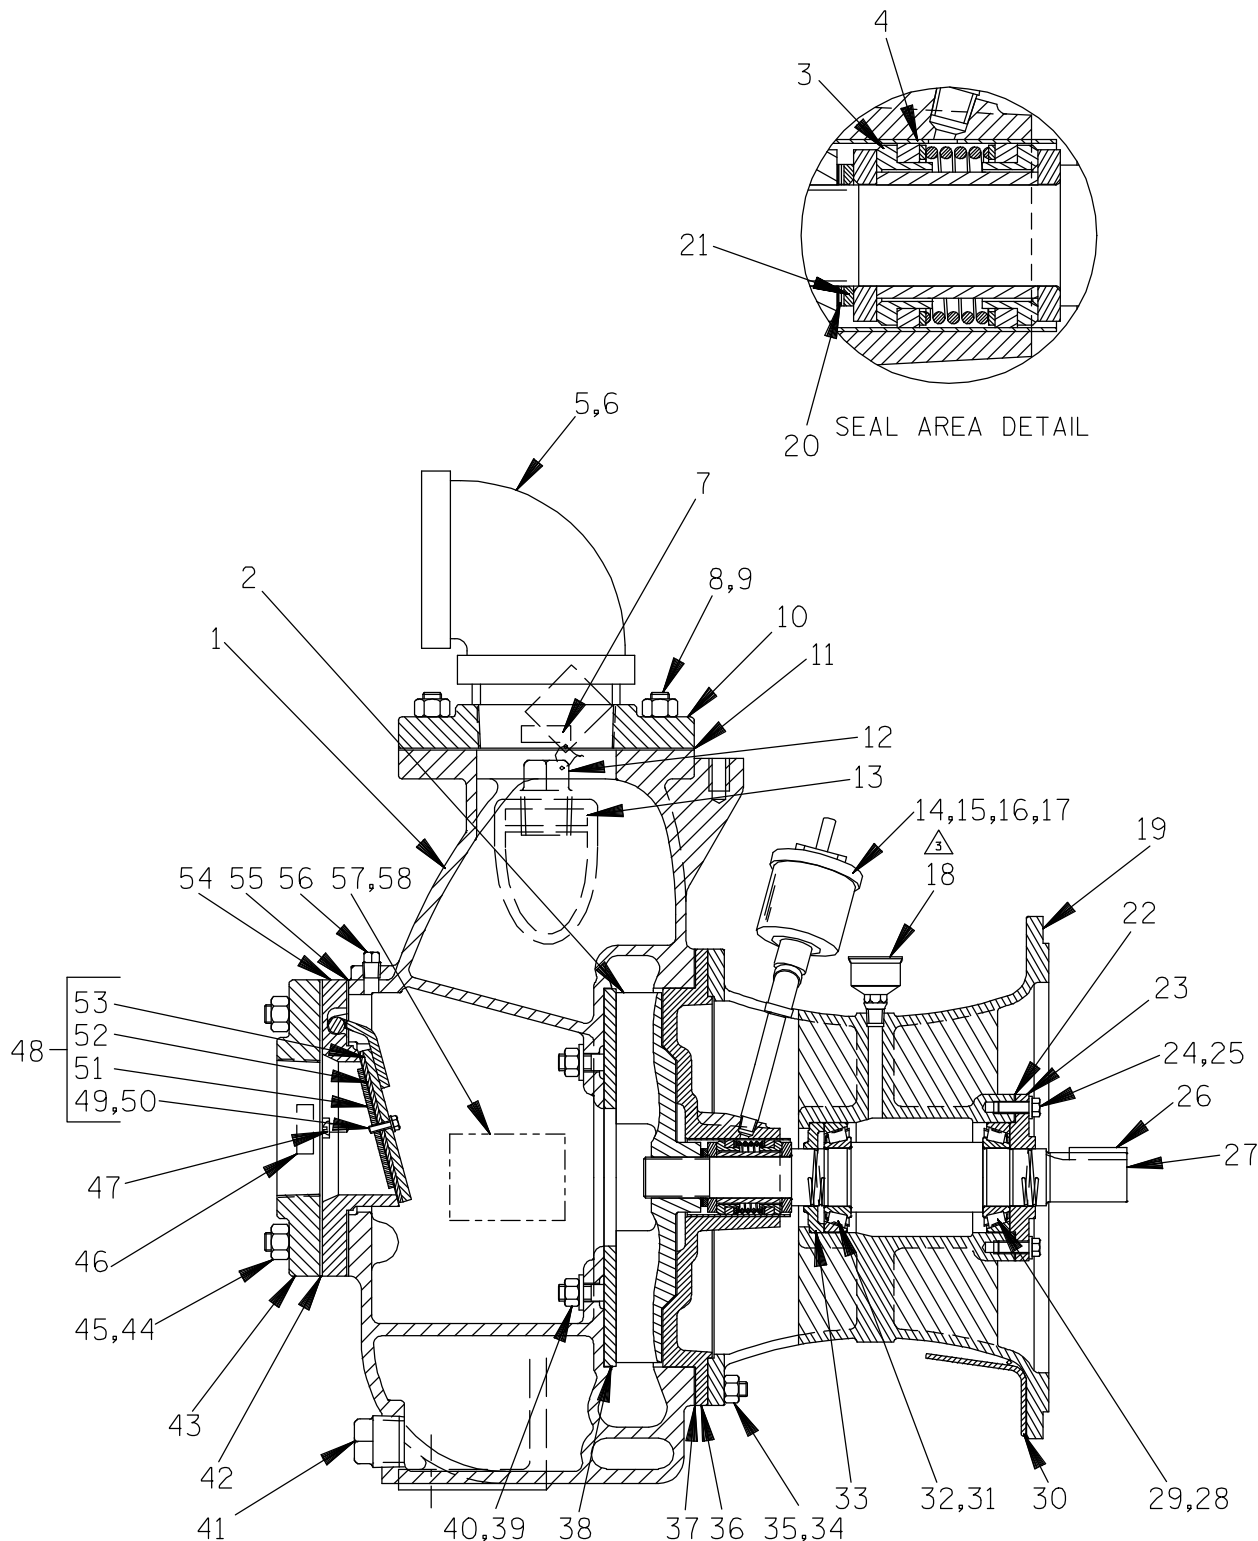

Figure 3. 46124-403 Pump End Assembly
(Figure 3)
Support the intermediate using a hoist and sling, and remove the hardware (6 and 7) securing the intermediate (19, Figure 3) to the engine bellhousing. Remove the intermediate guards (30, Figure 3), and separate the assemblies by pulling the intermediate straight away from the engine.
two allen head setscrews from the bushing (2). Screw one of the setscrews into the puller hole on the circumference of the bushing. As the coupling and bushing separate, remove the bushing, and slide the coupling off the shaft. Remove the shaft key (26, Figure 3).
Pump Casing and Wear Plate Removal (Figure 3)
Impeller Removal (Figure 3)